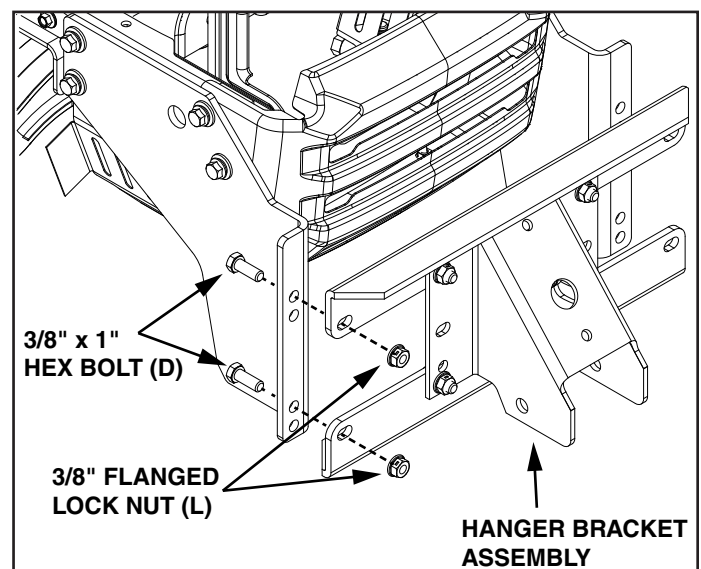

FIGURE 3
STEP 3: Attach the hanger bracket assembly (3) to the hanger brackets, using the upper holes. Use four 3/8" x 1" hex bolts (D) and 3/8" flanged lock nuts (L). See figure 3.